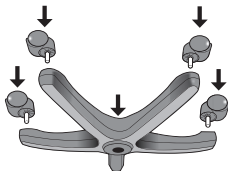

Fig. 1
1. Insert the 5 caster wheels into the black plastic base. The casters will 'click' into place, Fig 1. Gently pull on each one to ensure they are completely attached. Turn the base over onto the wheels.